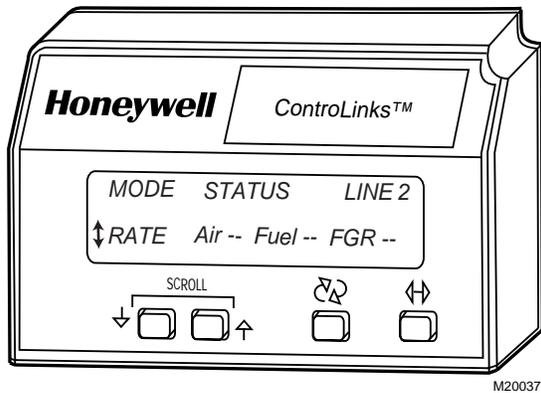

Fig. 5. Identification of S7999 ControlLinks™ Display Module display items.
6. See Fig. 5, 6 and 7 for S7999 unique wiring connections.
This section describes the layout and operation of the ControlLinks™ Display Module. See Fig. 5.
The MODE item shown in Fig. 5 is the current operating mode of the R7999. The two primary modes are Auto and Manu, which correspond to the R7999 Auto/Manual input switch. Additionally, when the system is firing, other modes may be shown as described below. Possible MODE values are:
The RATE item shown in Fig. 5 is the current firing rate request that is driving the R7999. Possible values are shown below using dashes to represent the positions where digits would appear:
The STATUS item shown in Fig. 5 shows the R7999 operating state. The following are status displays and descriptions:
The LINE2 item shown in Fig. 5 normally describes the contents of the second line of the display; however, when the display is first powered up, this area is used to indicate the progress of the initialization of the S7999 display itself.